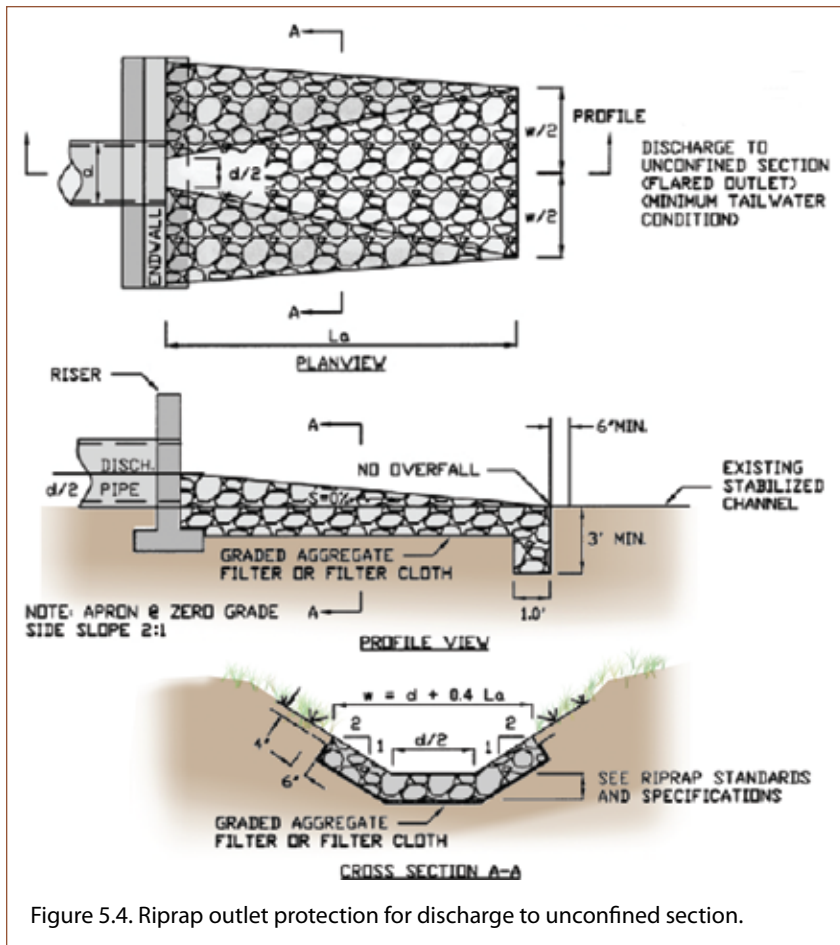

Figure 5.4. Riprap outlet protection for discharge to unconfined section.
- Outlet aprons should be straight and flat. The end of the apron should be at same elevation as receiving channel or ground (Figure 5.4).